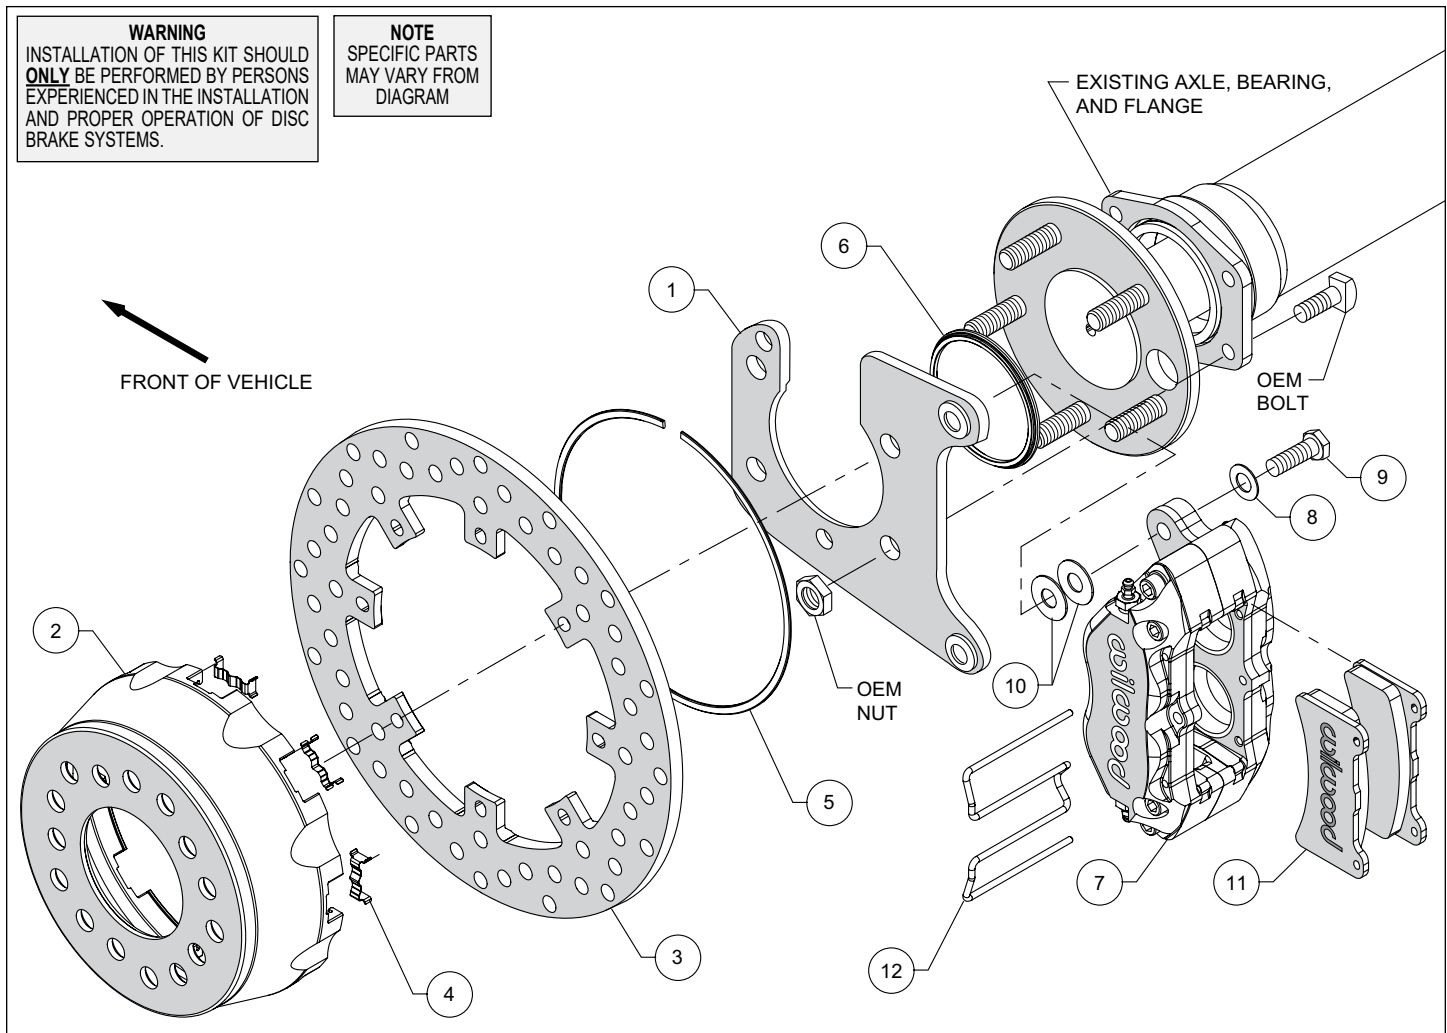
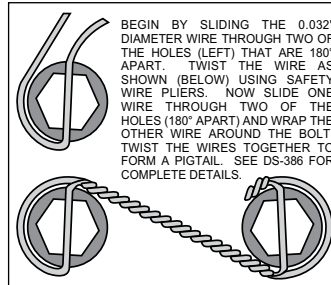
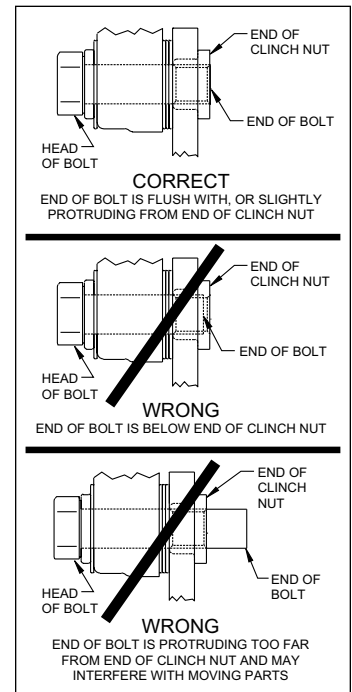

Figure 1. Typical Installation Configuration
Figure 4. Safety Wire Diagram
Figure 5. Clinch Nut Engagement Diagram
Assembly Instructions (numbers in parenthesis refer to the parts list and Figure 1 on the preceding pages): **CAUTION:** All mounting bolts must fully engage clinch nuts. Be sure to check that all bolts are either flush or protruding through flanged side of clinch nut after shiming, Figure 5.
- Install the caliper mounting bracket (1), with the slot for the axle pointing upward, to the housing flange using the OEM bolts and nuts, as shown in Figure 1 and Photo 1. Ensure that the heads of the clinch nuts are facing outboard, Photo 1. Apply red *Loctite*® 271 to the OEM bolt threads and torque to OEM specifications.
- Insert the dynamic mount wear plates (4) into the slots in the hat (2) making sure the tabs snap in place, Photo 2. Orient the rotor (3) as shown in Figure 1 and Photo 3, with the flush mount tab side facing the hat. Attach the rotor to the hat using snap ring (5) by pushing down on the rotor and installing the ring into the groove in the hat, as shown in Photo 4. Ensure that the ring is fully engaged in the groove.
- Slide the rotor registration adapter (6) onto the axle register on the axle flange with the smaller O.D. facing toward the hat (2), Photo 5. Align the correct hole pattern in the hat with the axle stud pattern and slide the hat/rotor assembly onto the axle hub. **NOTE:** The hat must fit flush against the axle flange or excessive rotor run out may result. Install three lug nuts (finger tight) to keep the hat/rotor in place while continuing with the installation. **NOTE:** Some OEM and aftermarket axles come with stud sizes larger than 0.50" diameter. Verify stud size, and if necessary, have a qualified machine shop drill the hats to the correct size.
- NOTE:** Please reference the caution statement at the beginning of the assembly instructions. Mount one caliper (7) onto the mounting bracket (1) using bolts (9) and washers (8), as shown in Figure 1. Initially place two .035" thick shims (10) on each bolt between the caliper and the bracket, Photo 6. Temporarily tighten the mounting bolts and view the rotor (3) through the top opening of caliper. The rotor should be centered in the caliper, Photo 7. If not, adjust the caliper by adding or subtracting shims between the bracket and the caliper. Always use the same amount of shims on each of the two mounting bolts. **NOTE:** The end of each bolt must be flush with or slightly protruding from the head of the clinch nut. If necessary, place spare shims between
washer and caliper mounting ear to achieve the proper clinch nut engagement, as shown in Figure 5. Once the caliper alignment and clinch nut engagement are correct, remove the bolts one at a time, apply red *Loctite*® 271 to the threads, and torque to 40 ft-lb. For an added measure of security, the bolts may be safety wired using standard 0.032 inch diameter stainless steel safety wire as shown in Figure 4. Please refer to Wilwood's data sheet DS-386 (available at www.wilwood.com/Pdf/DataSheets/ds386.pdf) for complete safety wire installation instructions. Repeat this procedure for the second caliper.